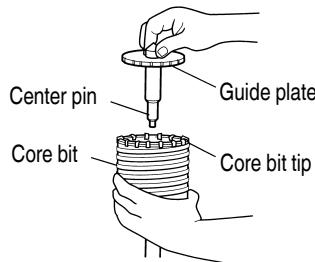

Fig. 26
- (3) Insert the center pin into the guide plate until it stops.
- (4) Engage the guide plate with the core bit, and turn the guide plate to left or right so that it does not fall even if it faces downward. (Fig. 26)